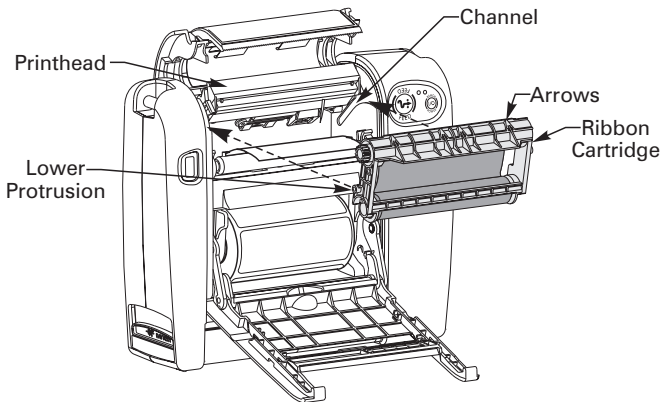

Figure 14
2. Hold the ribbon cartridge as shown in Figure 14. The placement arrows should be visible and pointing toward the back of the printer.
3. Align the lower protrusions on both sides of the ribbon cartridge with the channels in the left and right frames (refer to Figure 14).